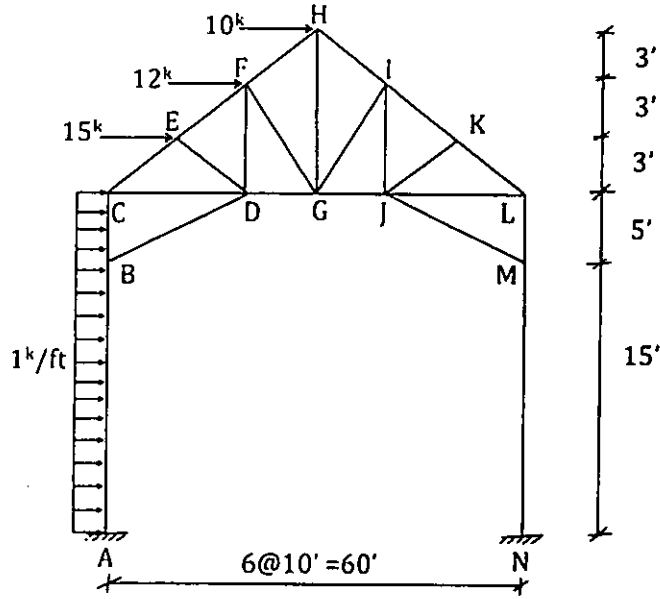

Figure 4.
4. For the mill-bent laterally loaded as shown in Figure 4, find out the reactions at supports *A* and *N*. Also, draw the shear force and bending moment diagrams for the columns *AC* and *NL*. Find the axial force in member *DG*. (28)